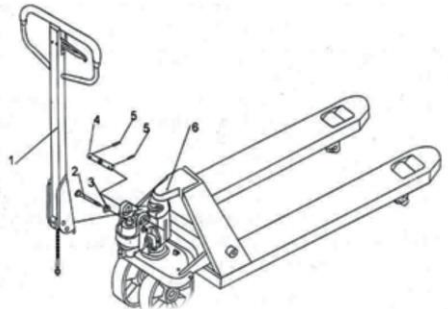

Fig.5
- Press the tiller arm down; take away the pin (2, Fig. 5).
- Set the control lever of the handle to 'RAISE' position, then raise the lever plate with the pin (2, Fig. 5) and insert the adjusting bolt into the front slot of lever plate. Note: Keep the adjusting nut under the lever plate.
- Use a hammer to insert the 2nd dowel pin (5, Fig. 5) into the 2nd hole of the axle. The tiller arm is now assembled to the pump.